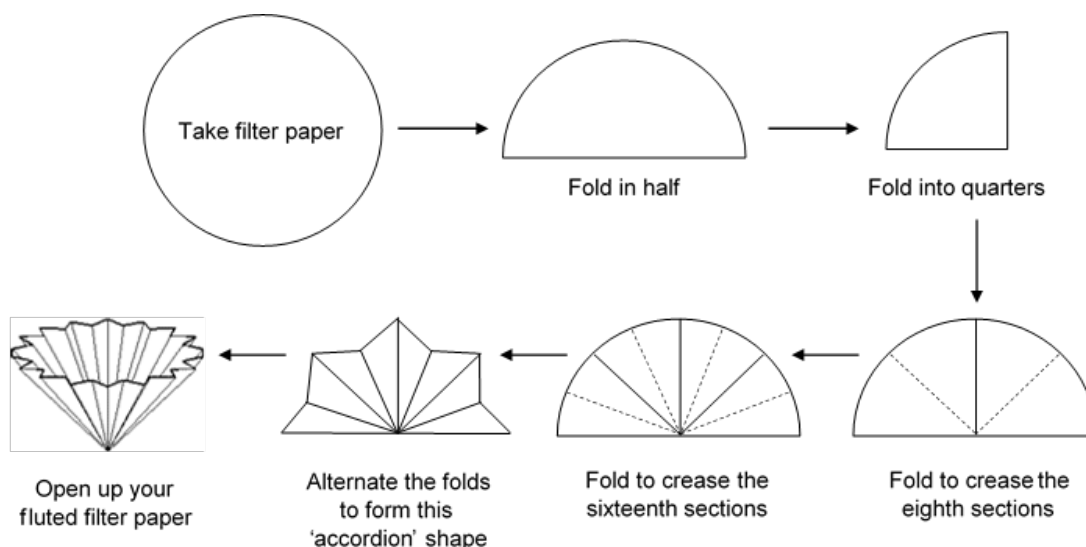

Figure 2.4: How to fold fluted filter paper
- f) Filter the saturated sodium chloride solution through fluted filter paper (see Figure 2.4) into a 100 mL conical flask using a long stem funnel, and discard the filter paper and precipitate into the solid-waste bucket. The solution in your beaker is a saturated sodium chloride solution.